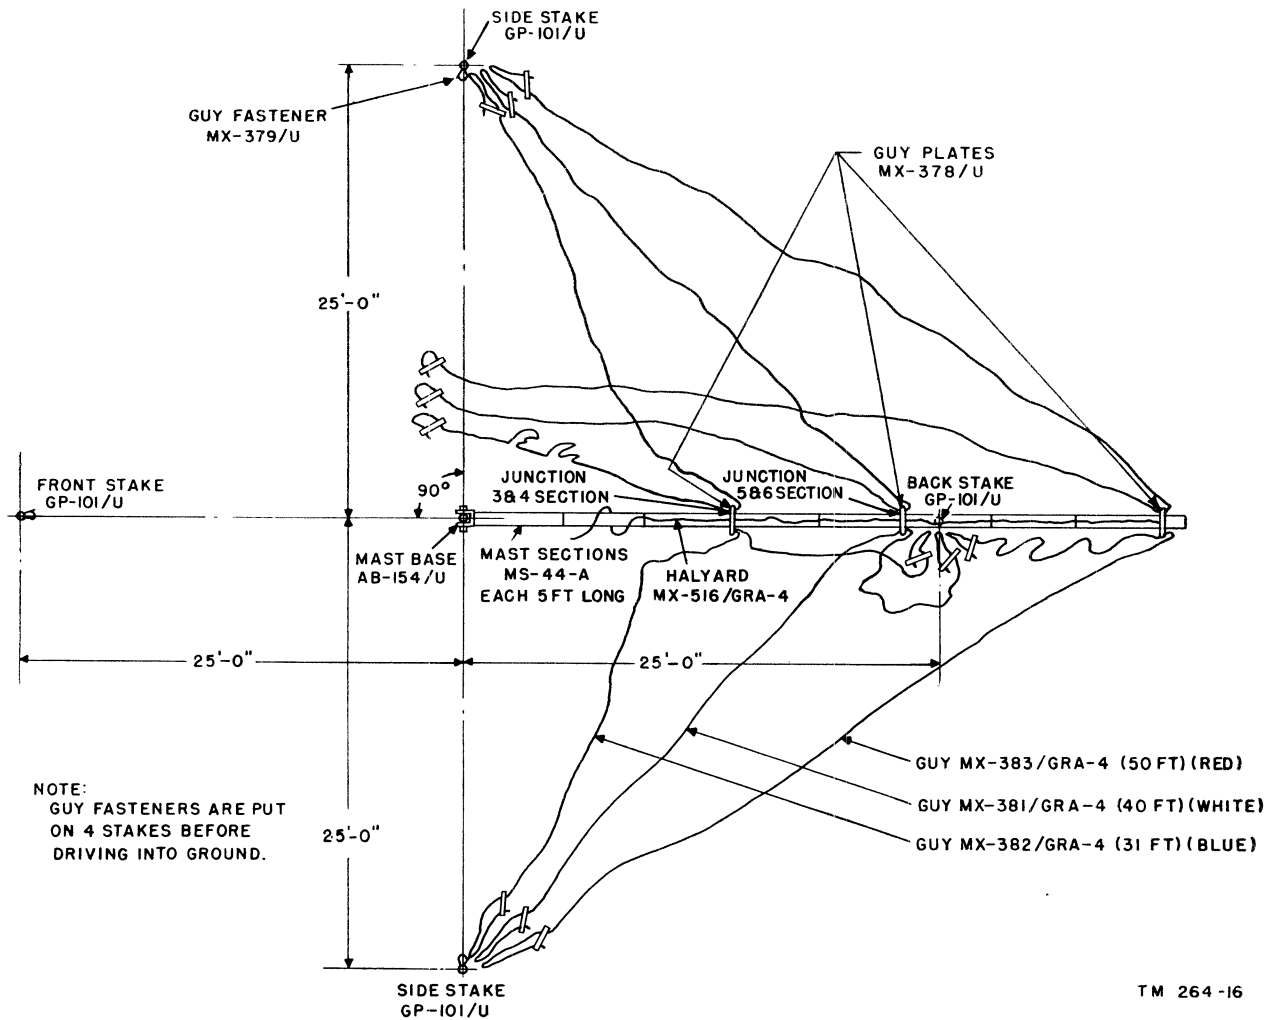

Figure 35. Antenna mast for Radio Set AN/GRC 26, lay-out prior to erection.
c. Place a Mast AB-155/U at each mast location and remove the canvas cover from Carrying Device MX-387/GRA-4. Drive the stake of Mast Base AB-154/U into the ground at the desired mast location, with the swivel end parallel to the antenna wire (fig. 35). If the ground is soft or sandy, place one end plate of the carrying device on the ground and push it down firmly. Then drive the stake on the mast base through one of the tubes in the end plate. Hammer HM-1 is furnished with the mast.
Add two additional sections, another guy plate, three more mast sections, and a third guy plate over the last section (fig. 35).
i. Remove Halyard MX-516/GRA-4 from the carrying device and fasten it by means of the snap fastener to the unused hole in the top guy plate. Slip the halyard rope through the pulley and tie the free ends of the rope near the mast base to keep the rope from running through the pulley during erection of the mast. Figure 35 shows the antenna mast assembly before erection.
(1) The man holding the guys pulls stead-